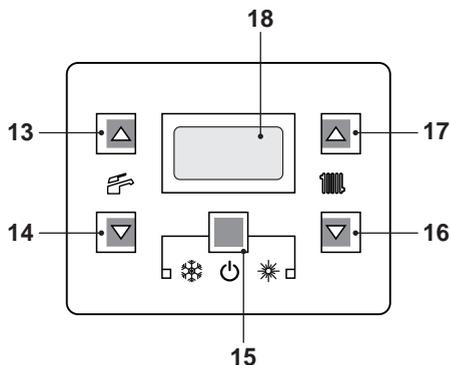

Fig. 2.7
- Press the key 15 for 2 seconds until the  symbol appears on the display Fig. 2.7.
The output temperature of c.h. water can be adjusted by acting on keys 16 (reduce) and 17 (increase) (Fig. 2.7) from a minimum of about 25°C to a maximum of about 85°C. Press one of the two keys once to display the "set" value. Press again to access the modification.
However, if the ambient temperature is not comfortable, the flow temperature of the heating plant can be increased or reduced by $\pm 15^{\circ}\text{C}$ by acting on keys 16 (reduce) and 17 (increase) (Fig. 2.7).
The temperature of the d.h.w. can be adjusted by acting on keys 13 (increase) and 14 (reduce) (Fig. 2.7) from a minimum of about 35°C to a maximum of about 60°C . Press one of the two keys once to display the "set" value. Press again to access the modification.